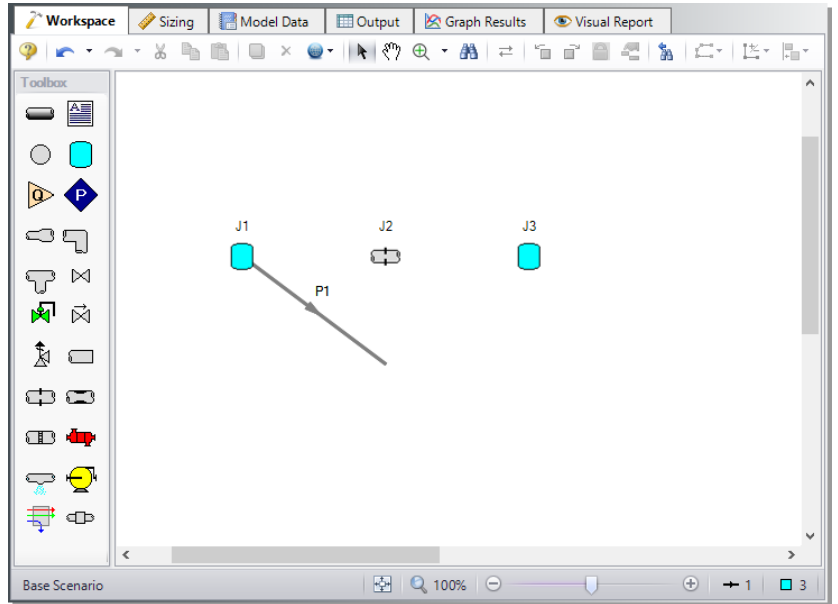
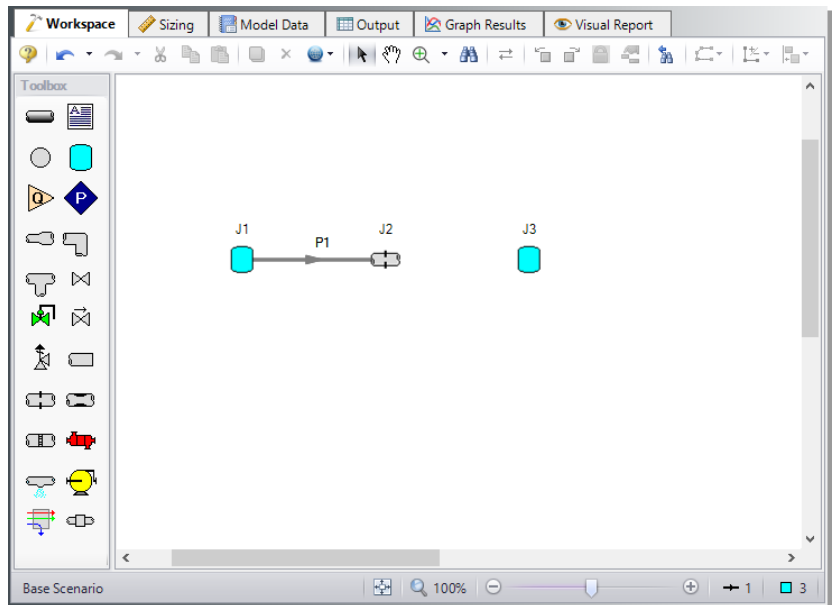

Figure 2.4d Walk through model with pipe partially connected
Figure 2.4e Walk through model with first pipe connected
- **To place the pipe between J1 and J2**, use the mouse to grab the pipe in the center, drag it so that its left endpoint falls within the J1 Tank icon, then drop it there (see Figure 2.4d). Next, grab the right endpoint of the pipe and stretch the pipe, dragging it until the endpoint terminates within the J2 Orifice icon (see Figure 2.4e).